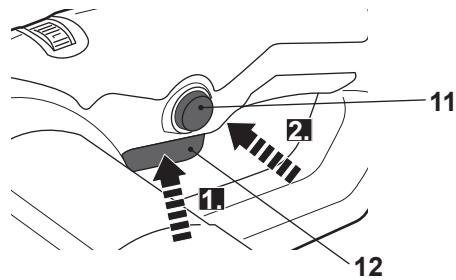

Fig. 19
- > Switch the product on by squeezing the on/off switch (12) and hold it in position (Fig. 19, step 1).
- > Press the lock-on button (11) and hold it in position to lock the on/off switch (12) (Fig. 19, step 2).
- > Release the lock-on button (11) and on/off switch (12). The on/off switch is now locked on for continuous use.
- > Depress and release the on/off switch (12) to switch the product off.